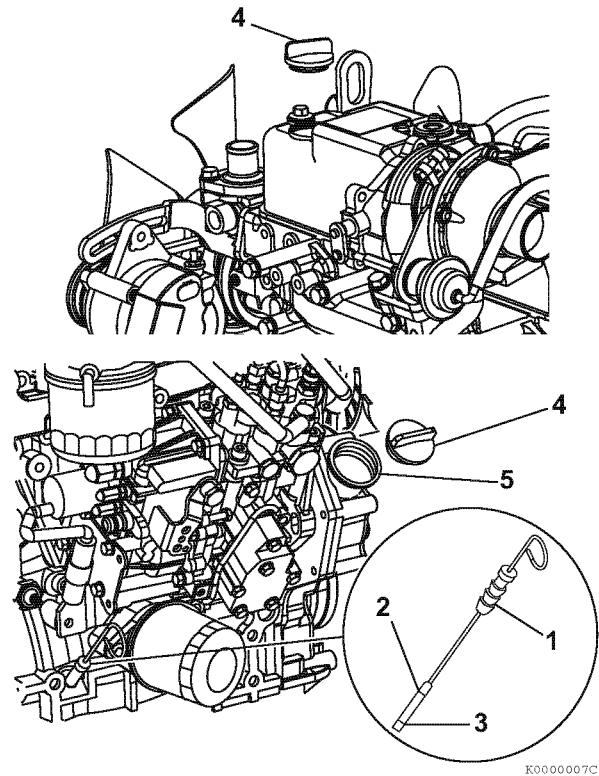

Figure 5-15
8. Add engine oil (5, **Figure 5-15**) as needed until the level is between the upper (2, **Figure 5-15**) and lower lines (3, **Figure 5-15**) shown on the dipstick (1, **Figure 5-15**).
9. Reinstall the oil filler cap (4, **Figure 5-15**). If any engine oil is spilled, wipe it away with a clean cloth.